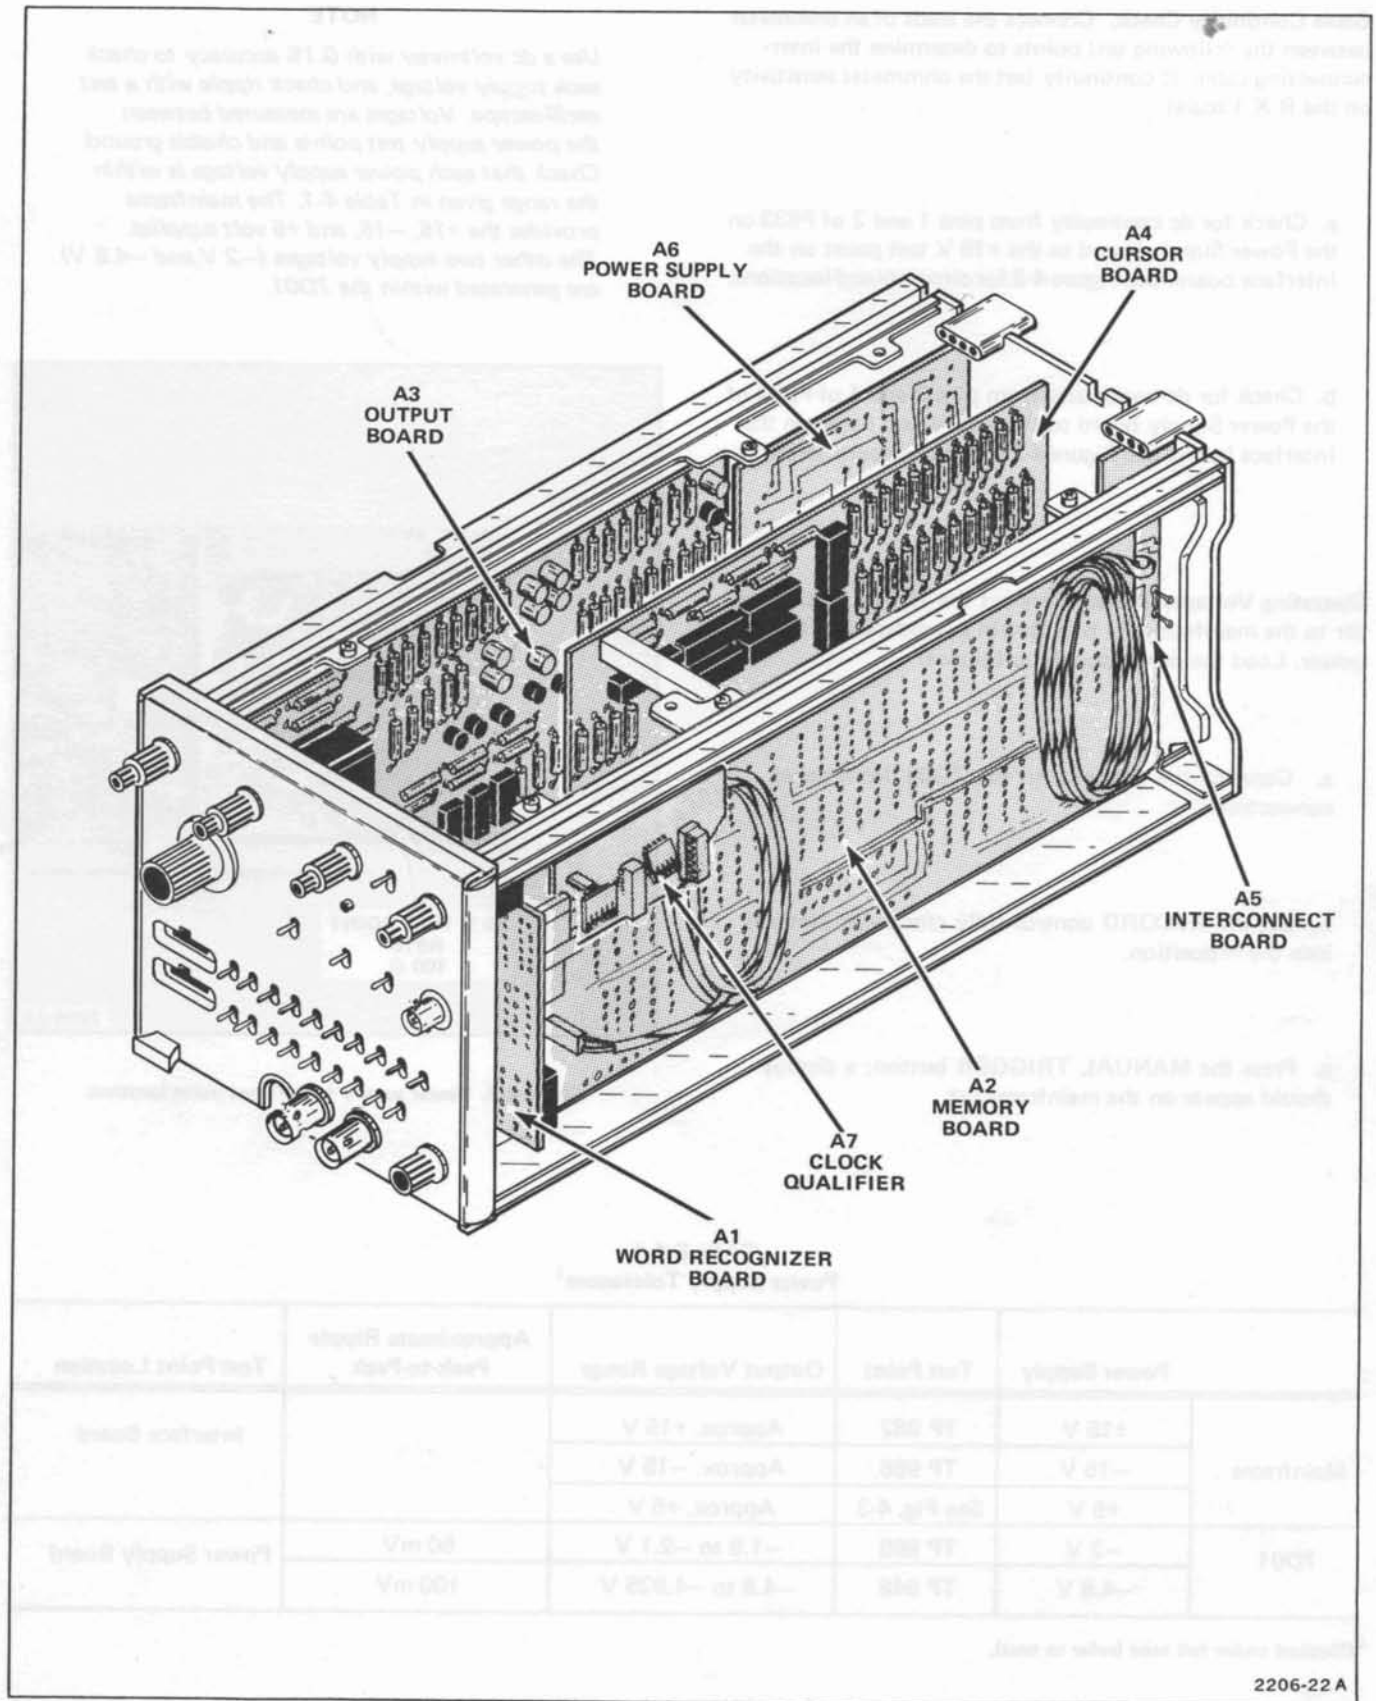

Figure 4-2. Circuit board locations.
a. Check for dc continuity from pins 1 and 2 of P933 on the Power Supply board to the +15 V test point on the Interface board. See Figure 4-2 for circuit board locations.
b. Check for dc continuity from pins 3 and 4 of P933 of the Power Supply board to the -15 V test point on the Interface board. See Figure 4-2 for circuit board locations.